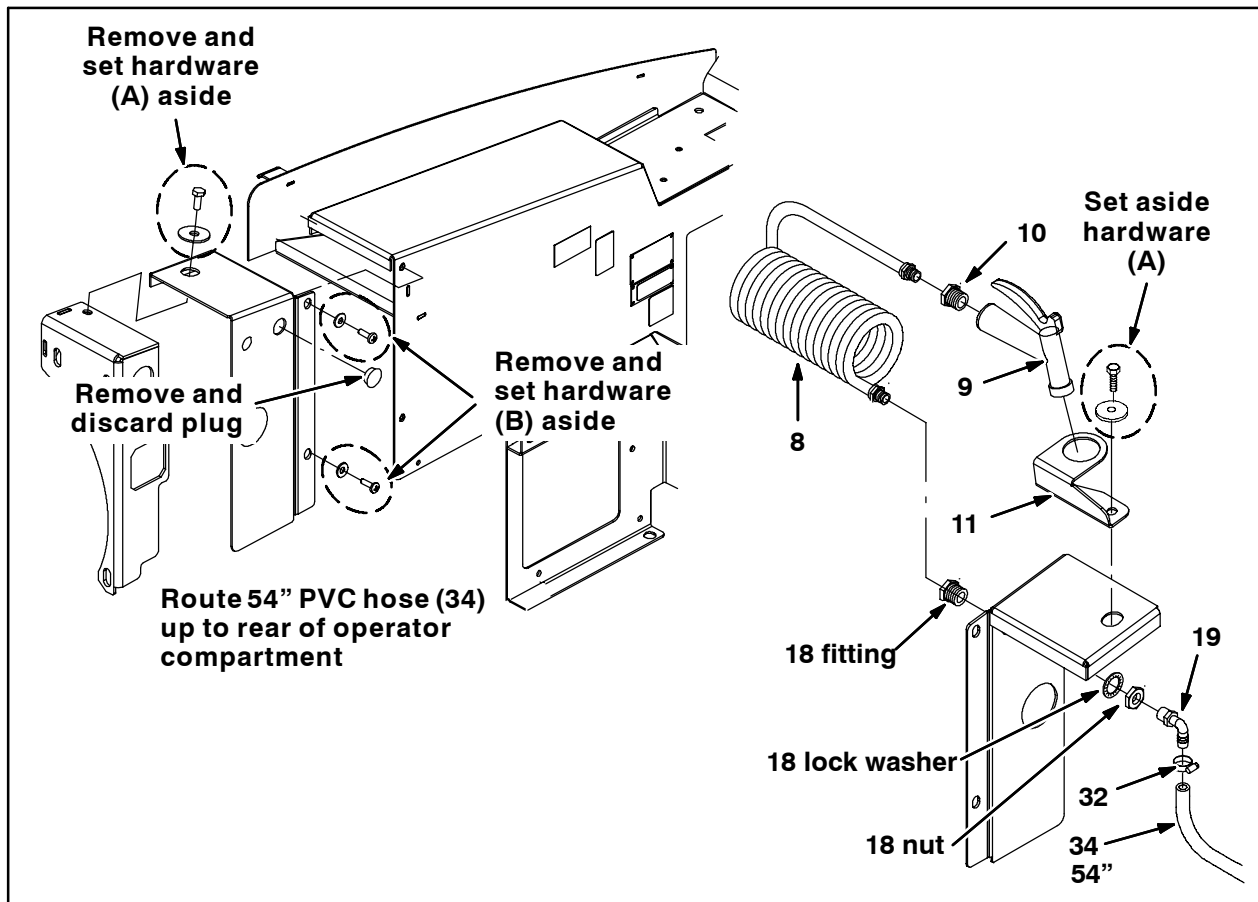

FIG. 6
10. Remove the removeable panel from the rear corner of the operator compartment. Set the panel and hardware (A) and (B) aside. Refer to Fig. 6.
11. Remove the plug from the removeable panel. Discard the plug. Refer to Fig. 6.
12. Route the 54" PVC hose (34) up to the rear of the inner back corner of the operator compartment. Refer to Fig. 6.
13. Remove the lock washer and nut from straight fitting (18) and use the lock washer and nut to install the straight fitting into the rear of the operator compartment where the plug was previously located. Refer to Fig. 6.
14. Use a hose clamp (32) to attach a 90° plastic fitting (13) onto the other end of the 54" PVC hose (34). Refer to Fig. 6.
15. Apply sealant onto the threads of the 90° plastic fitting (13) already installed on the 54" PVC hose (34) and install the fitting into the straight fitting (18) installed in the rear of the operator compartment. Refer to Fig. 6.
16. Apply sealant onto the threads at one end of the coiled water hose (8) and install the hose into the straight fitting (18) installed in the rear of the operator compartment. Refer to Fig. 6.
17. Use the saved hardware (B) to reinstall the removeable panel into the rear corner of the operator compartment. Refer to Fig. 6.
18. Use the saved hardware (A) to install the spray handle mounting bracket (11) onto the removeable panel. Refer to Fig. 6.
19. Thread the straight brass fitting (10) into the spray gun (9). Refer to Fig. 6.
20. Apply sealant onto the threads at the other end of the coiled water hose (8) and thread the spray gun (9), with brass fitting already installed (10), onto the coiled water hose. Refer to Fig. 6.